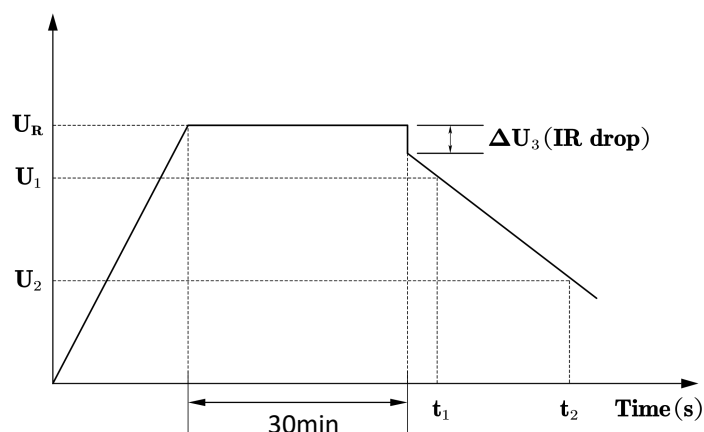

Figure 2. Charge and discharge curve graph
- as shown in Figure 2, and calculate the capacity of the capacitor according to the following formula: